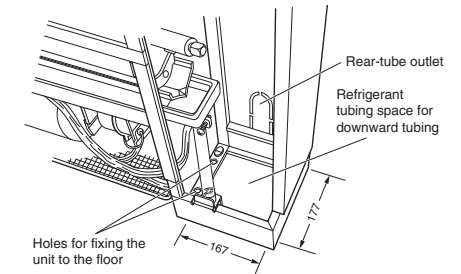

Fig. 3-112
- When a downward tube is required, refer to the opening dimensions shown in Fig. 3-112.